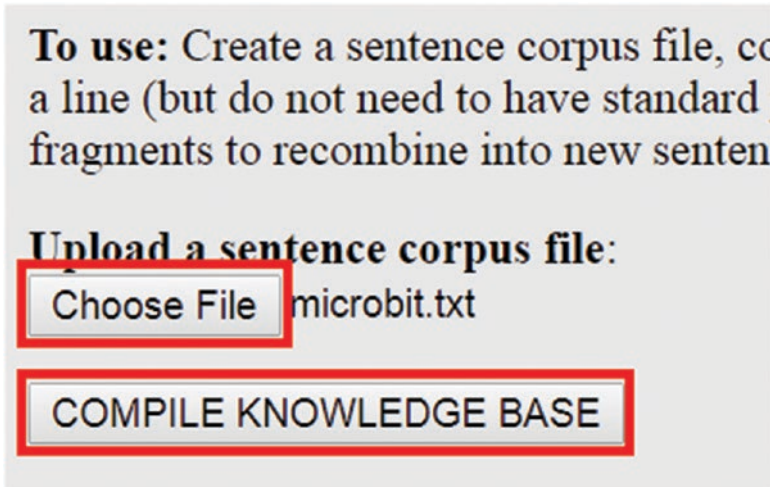

Figure 7-3. Uploading and compiling a text file
2. Browse and locate the saved file by clicking the Choose File button (see Figure 7-3).
3. Click the Compile Knowledge Base button (see Figure 7-3).